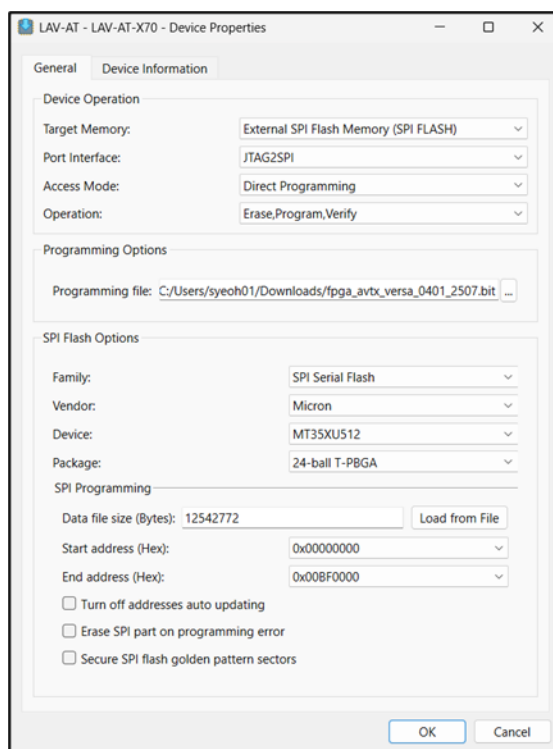

Figure 6.16. Load Bitstream File
- Select the appropriate SPI flash configuration to flash directly to external SPI flash. Refer to Figure 6.16 for the expected settings. Click the ... button under the file name bar and choose the bitstream file to program.